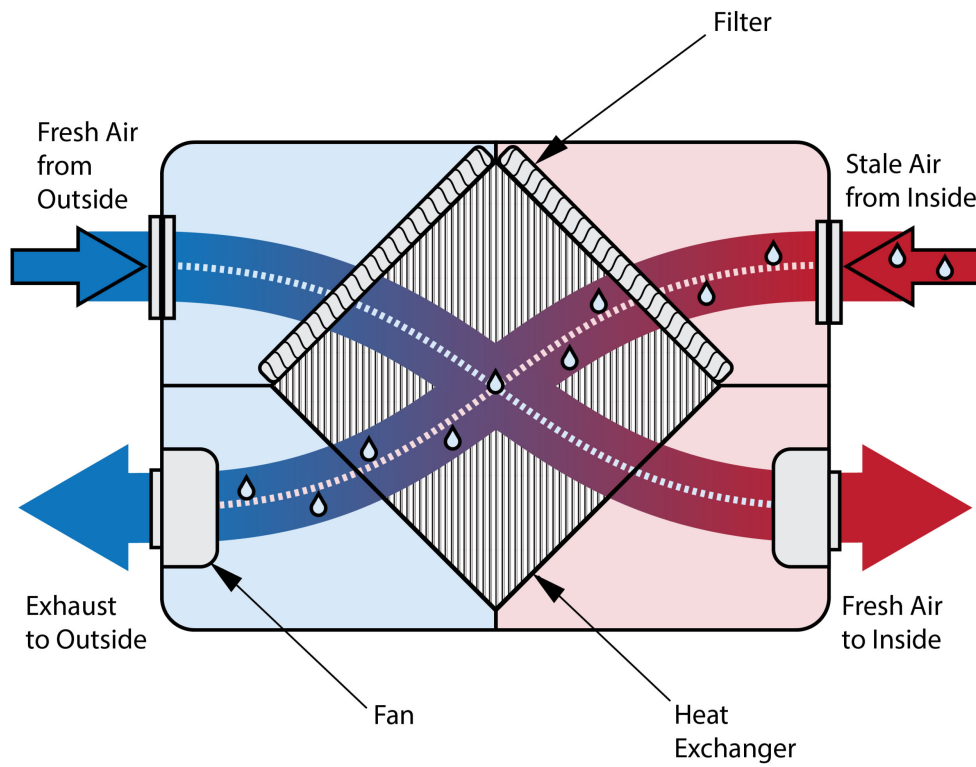

Figure 36 HRV unit. (TRU Open Press; [modified] Adobe Stock #461693074) CC BY-NC-SA (<https://creativecommons.org/licenses/by-nc-sa/4.0/deed.en>)
The heater emitters that release heat from the boiler water into the space being heated are examples of water-to-air heat exchangers. Figure 36 is a fan coil type where hot boiler water is piped to an exchanger, similar to a radiator in a car. An axial fan mounted behind the exchanger pushes air through the finned coils.
- **Figure 36** HRV unit has been modified by TRU Open Press from original Heat Recovery Ventilator (<https://stock.adobe.com/ca/images/heat-recovery-ventilator-as-indoor-hot-air-temperature-usage-outline-diagram-labeled-educational-physical-principle-for-home-ventilation-system-device-for-climate-control-economy-vector-illustration/461693074>) image from VectorMine (2023); found on Adobe Stock and used under the Adobe Stock Standard free trial license (<https://stock.adobe.com/ca/license-terms>).